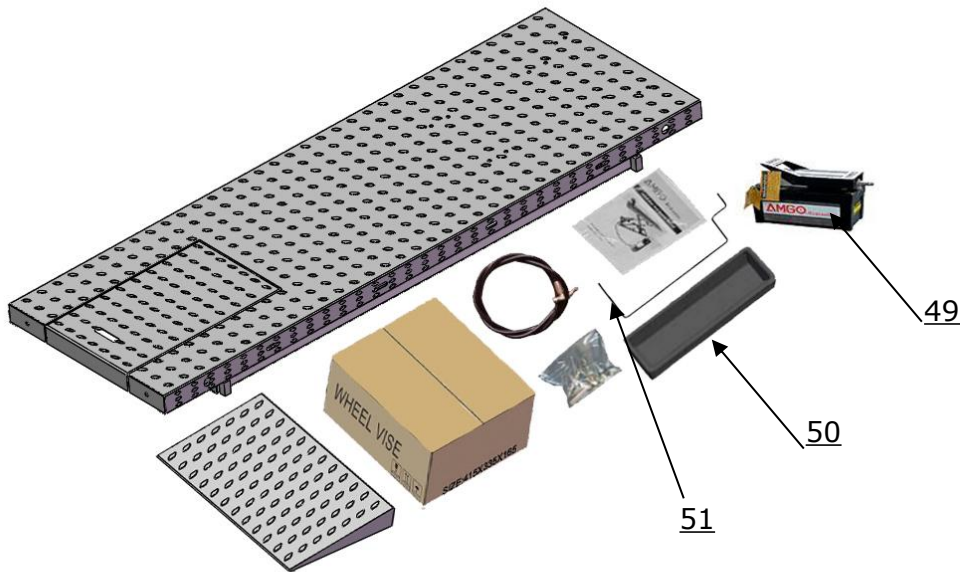

Fig.6
1. Packaged cargo (lift, drive-in ramp, **pneumatic pump**, **tool tray**, wheel vise). Move the parts aside, open the outer packing and check the parts according to the shipment parts list. **see Fig.6**